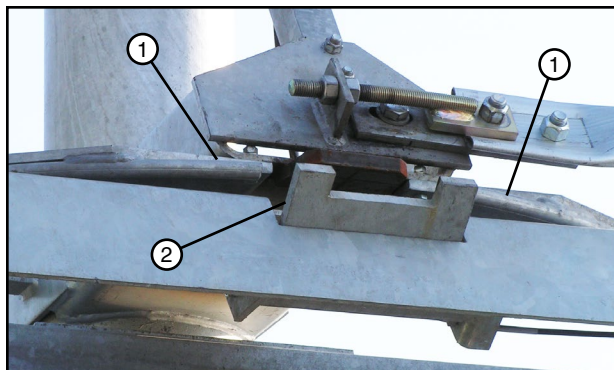

Figure 72-1 1. Latch Hoop
13. After the span has pivoted a few degrees and the latch hoops have moved behind the pivot swivel latches, push the pivot swivel levers into the closed position. See Figures 72-1 and 72-2.